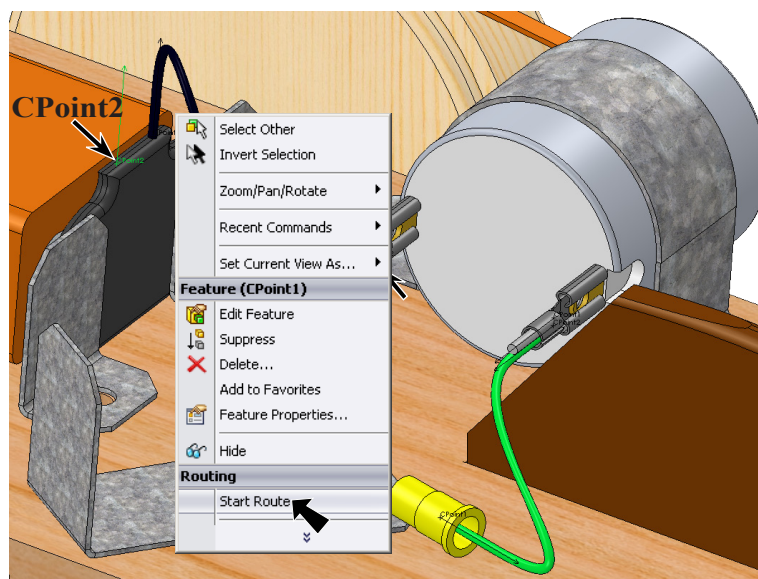

Fig. 2
Step 2. **Right click the CPoint2 on left side of Battery Clip** and click **Start Route** from menu, **Fig. 2**.